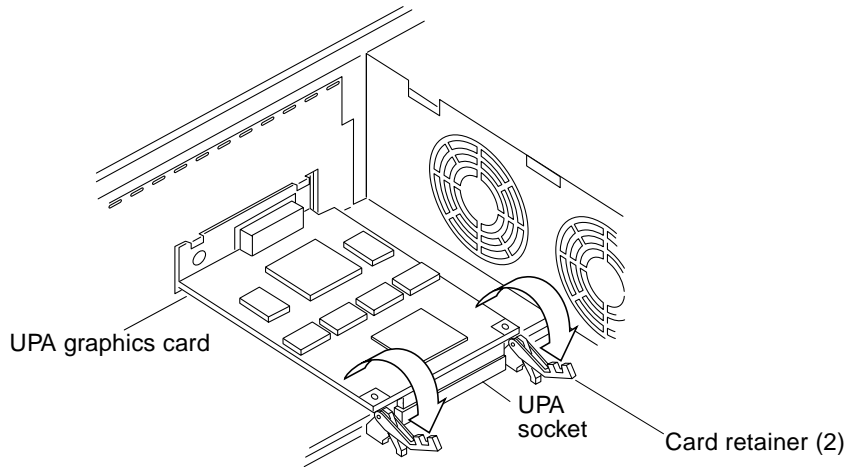

FIGURE 10-9 Preparing to Remove a UPA Graphics Card
5. Unlock the card retainers (FIGURE 10-9).